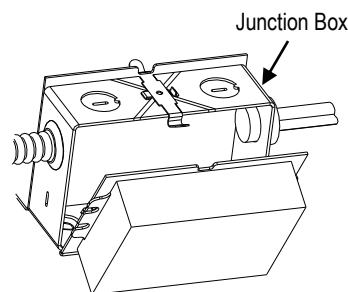

Figure 5
4. Remove knockouts on junction box to feed power supply to fixture as shown in Figure 5. Supply wire must meet applicable electrical codes and be rated for a minimum of 75°C. Junction box is thru-wire rated for 8-No. 12 AWG conductors (4in-4out). Driver is standard with 0-10V dimming capability with wires provided by others
5. Complete necessary splices. Snap the door/driver assembly onto the junction box as shown in Figure 5
4. Remove knockouts on junction box to feed power supply to fixture as shown in Figure 5. Supply wire must meet applicable electrical codes and be rated for a minimum for 75°C. Junction box is thru-wire rated for 8-No. 12 AWG conductors (4in-4out). Driver is standard with 0-10V dimming capability with wires provided by others.
5. Complete necessary splices. Snap the door/driver assembly onto the junction box as shown in Figure 5.